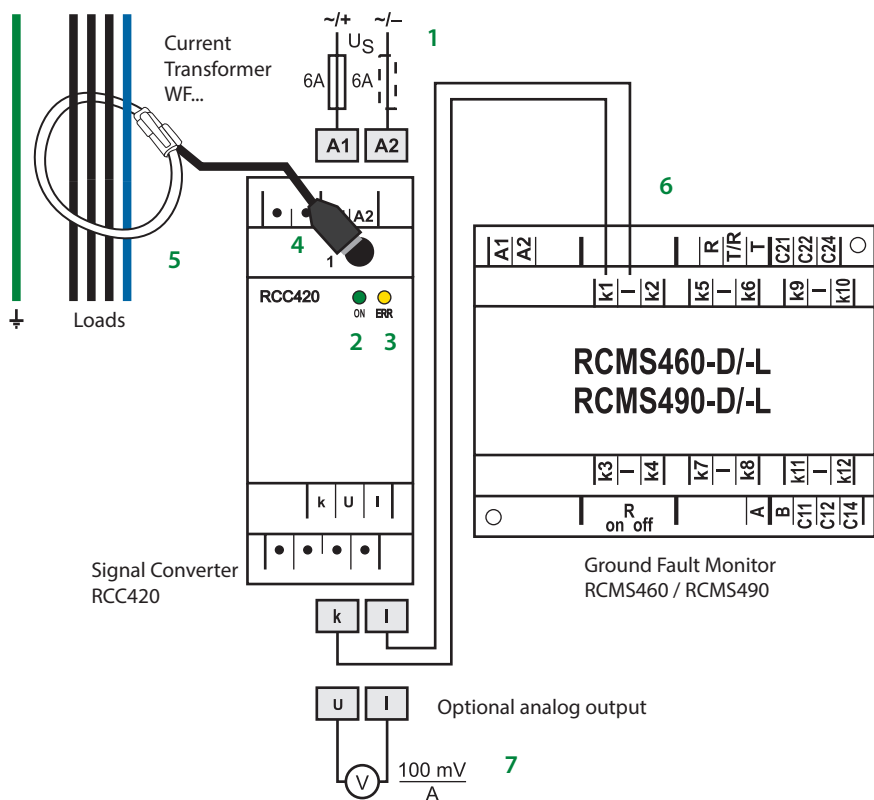

Figure 1 - Wiring WF series current transformer to RCMS series ground fault monitor
Refer to figure 1 for wiring the WF current transformer to the applicable RCMS. **Follow all instructions for properly wiring the RCMS device.** Refer to the RCMS user manual for instructions. The WF current transformer may be split via the connector; it is not necessary to disconnect the system conductors in order to install the current transformer.
2. Connect the current transformer to the RCC420 signal converter as shown in Figure 1.
3. Connect the RCC420 signal converter to the appropriate channel of the RCMS monitor (Figure 1 shows connecting to channel 1 as an example).